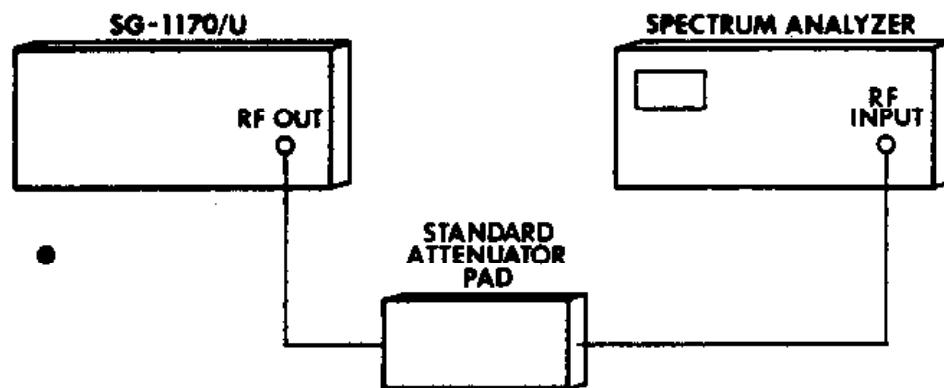

Figure 4-1. Set-up for Step Attenuator Tests
4. Disconnect the power sensor from the front-panel RF OUT connector. Connect a standard 10 dB attenuator pad to the RF OUT connector. Connect the output of the attenuator pad to the spectrum analyzer as shown in Figure 4-1.
NOTE: To test the OUTPUT Step Attenuator below -20 dBm, an RF amplifier (> 20 dB gain) is required. Insert the amplifier between the standard attenuator pad and the spectrum analyzer (Figure 4-1). The allowable error for the -90 dBm setting (step 11) is ± 1.5 dB. The OUTPUT Step Attenuator can be tested down to the -130 dBm position if a 40 dB RF amplifier is used and if precautions are taken to properly shield the RF output from the instrument proper.